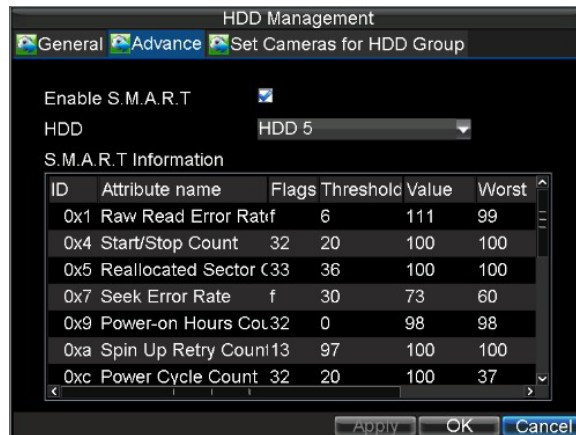

Figure7. S.M.A.R.T Function
1. Enter the HDD Management menu by clicking Menu >HDD, select Advance tab, shown in Figure 7.